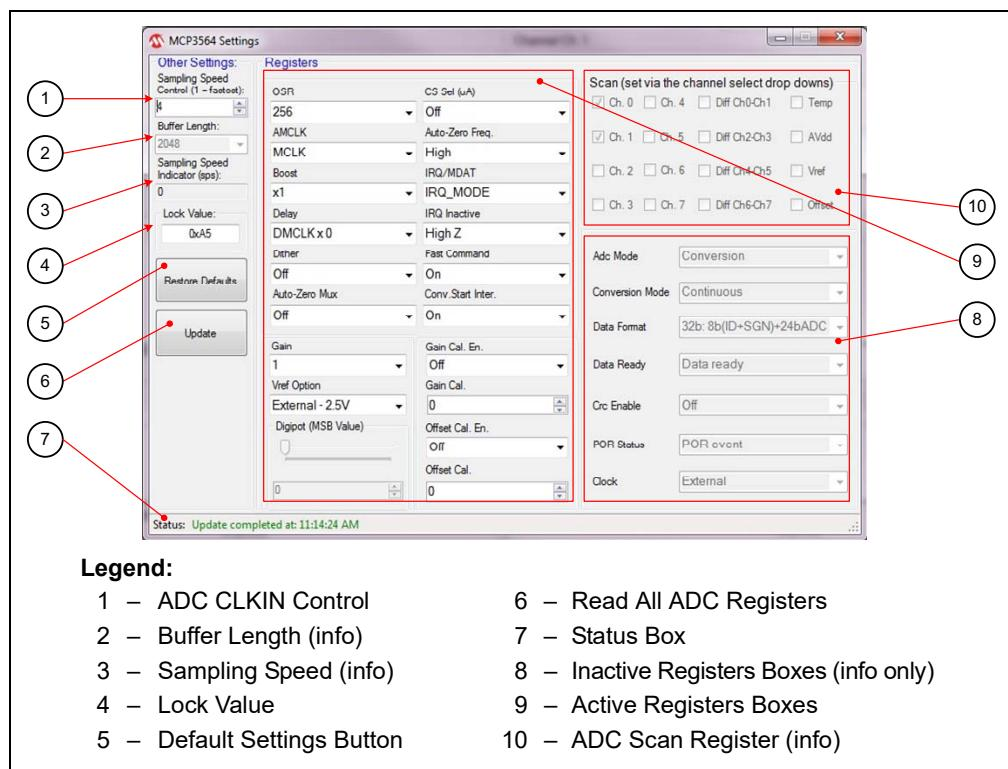

FIGURE 4-7: MCP3564 Settings Window.
- The “Registers” field contains the main MCP3564 internal registers. This provides direct access to the ADC registers by selecting a particular option from the drop-down lists that are active. The inactive register drop-downs, on the right side (Figure 4-7, Number 8), are set to a default option needed for the MCP3564 ADC Evaluation Board V2 application and are not configurable.
- The Status toolbar provides information about the updating process and the exact time of the completion (Figure 4-7, Number 7).